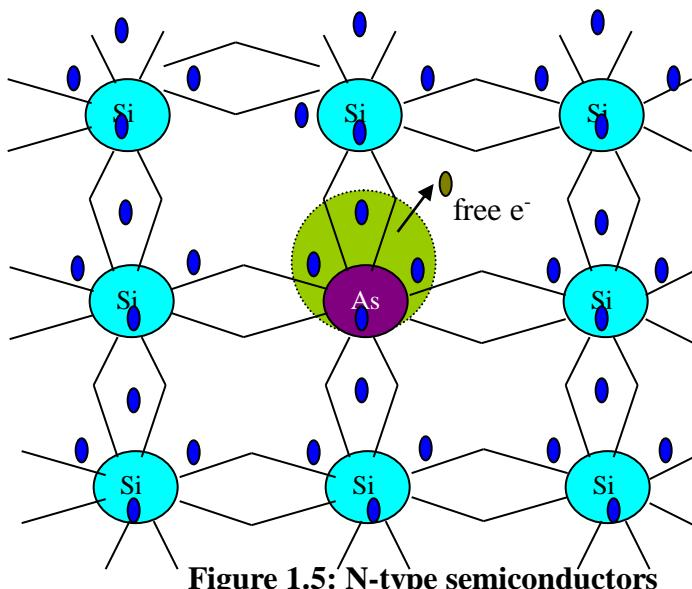

Figure 1.5: N-type semiconductors
- To understand the formation of n-type semiconductor, consider a pure silicon crystal with an impurity say arsenic added to it as shown in figure 1.5.